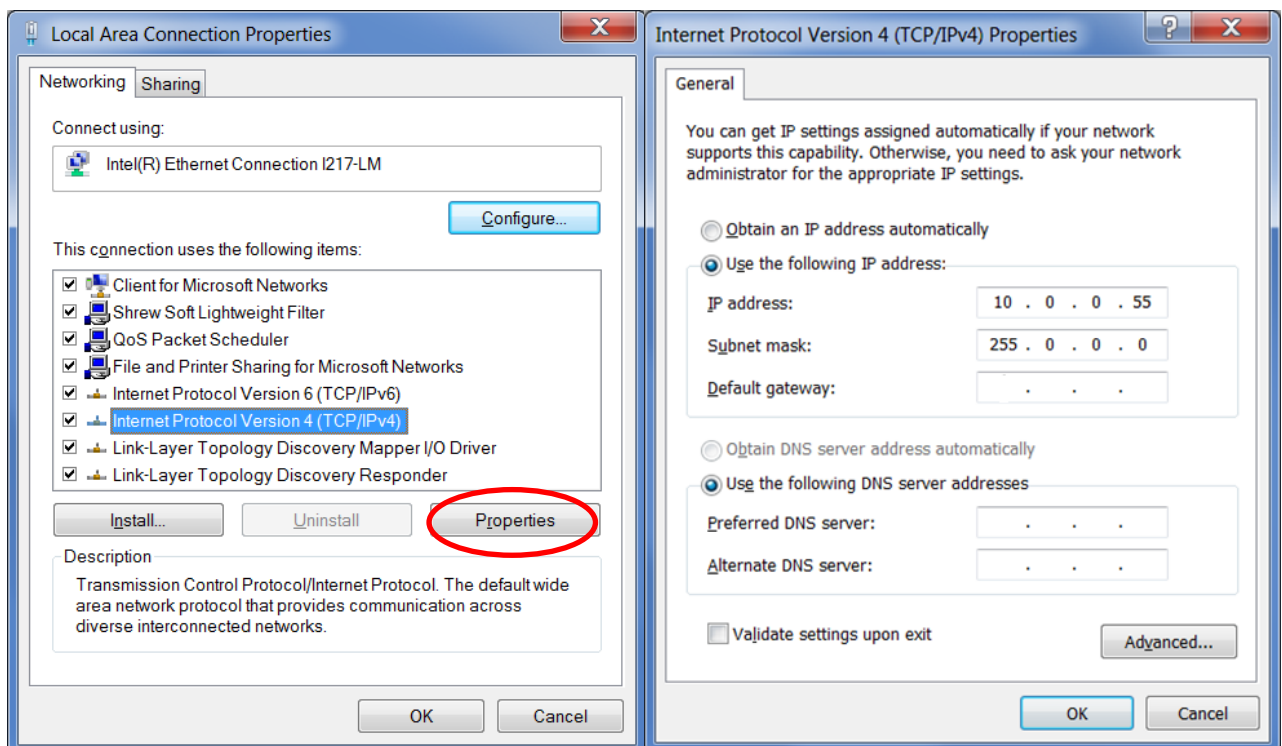

Figure 1: Select Internet protocol type 4(TCP/IPv4), right: Enter IP address
In the "Local Area Connection Status" window click on the button "Properties". In the "Local Area Connection Status properties" window select the Internet Protocol Version 4 (TCP/IPv4) by clicking on it (see Figure 1 to the left) and click on the "Properties" button.
2. If in the "Internet Protocol Version 4 (TCP/Pv4) Properties" window the setting "Obtain an IP address automatically" is activated, the setting must be changed to "Use the following IP Address" (see Figure 1 on the right).
The first **10** IP addresses are mostly reserved for other services. Please do not use them. We are using x = 55 for our example (see Figure 1 on the right).